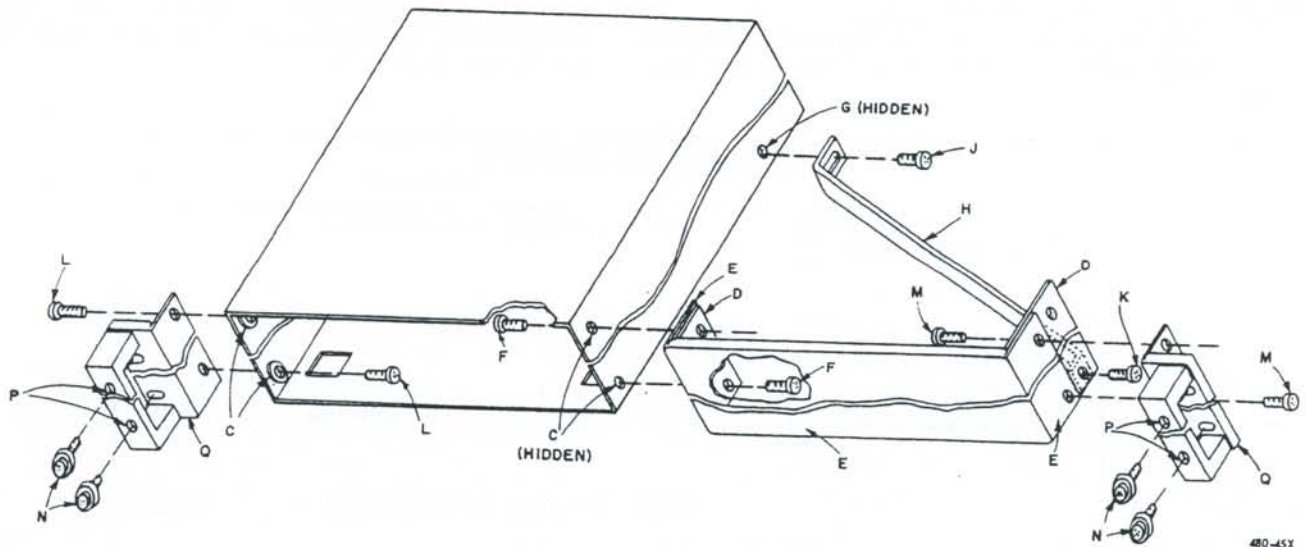

Figure 2-2. Assembly of the 1491 for installation in a relay rack.
• 1491-A, -B, -C. To install one of these decade inductors in a standard 19-inch relay rack, use the Rack-Adaptor Set (parts listed in Table 2-1), refer to Figure 2-2, and proceed as follows:
- Press the sub panel (D) into the blank panel (E).
- Attach the short flange of the blank panel (E) to the side of the cabinet, using two screws (F, Table 2-1) as indicated in Figure 2-2. The blank panel may be attached to either side of the cabinet. Note that the screws (F) enter in opposite directions — one from the inside of the cabinet and one from the outside.
e. Pierce and push out the plug in the lower rear boss (G) on the side of the cabinet where the support bracket (H) is to be attached.
f. Attach one end of the support bracket (H) to the lower rear boss (G), using a 5/16-inch screw (J). Use the end of the support bracket with the elongated hole.
g. Attach the other end of the support bracket (H) to the lower rear hole in the sub panel (D), using a 5/16-inch screw (K).
h. Attach one Rack-Adaptor Assembly (Q) to the other side (left side in Figure 2-2) of the cabinet, using two 5/16-inch screws (L). Note that the screws enter the holes in opposite directions.
i. Attach the remaining Rack-Adaptor Assembly (Q) to end of the blank panel (E), using two 5/16-inch screws (M). Note, that these screws enter in opposite directions and pass through the holes in sub panel (D), as shown.
k. Place a straight edge across the instrument panel and the blank panel (E). Loosen the screw (J) in the support bracket (H), adjust the alignment of the blank panel (E) so that it forms a straight line with
- b. Remove the blank panel (E), the support bracket (H), and both Rack-Adaptor Assemblies (Q) from the cabinet.
• 1491-D, -F, -G. To install one of these decade inductors in a standard 19-inch relay rack, use the Rack-Adaptor Set (parts listed in Table 2-2), refer to Figure 2-2, and proceed as follows:
- b. Pierce and push out the plugs from the four bosses (C) on the inner sides of the cabinet, near the front. (Be careful not to damage the threads.)
- c. Attach one Rack-Adaptor Assembly (Q) to the left side of the cabinet, using two 5/16-inch screws (L), as shown in Figure 2-2. Note that the screws enter the holes in opposite directions.
- d. Attach the other Rack-Adaptor Assembly (Q) to the right side of the cabinet, as described in step c.
Parts E, H, and D, as shown in Figure 2-2, are not used with 1491-D, -F, and G. Rack-Adaptor Assembly (Q) is attached directly to the side of the cabinet.
f. Slide the assembly into the relay rack and lock it in place with the four 9/16-inch screws (N). Tighten these screws by inserting a screwdriver through the holes in the handles.